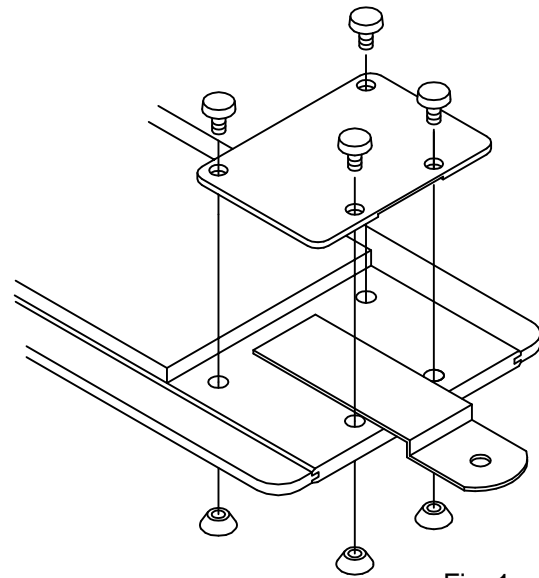

Fig. 1
1. Remove present end plates and sliding bars from end of straightedges. (See Fig. 1)